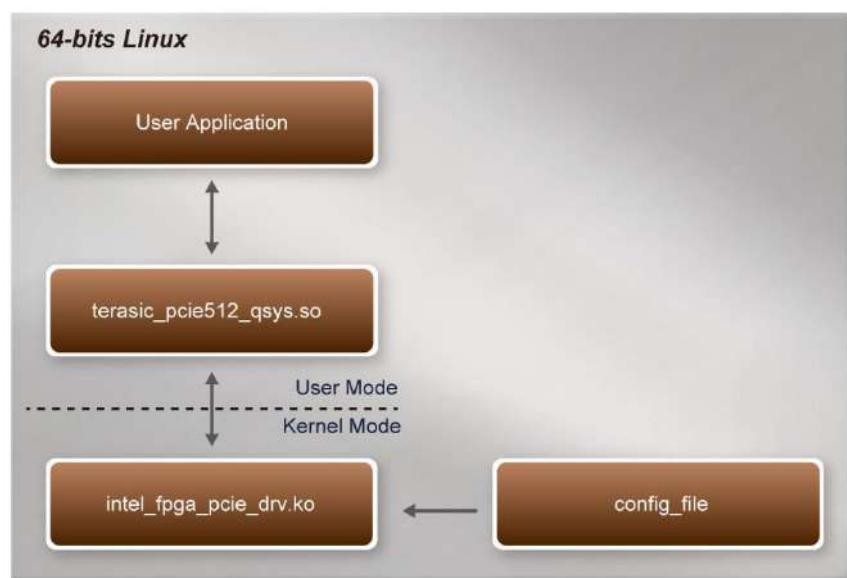

Figure 8-2 PCI Express Software Stack
**Figure 8-2** shows the software stack for the PCI Express application software on 64-bit Linux. The PCIe library module `terasic_pcie512_qsys.so` provides DMA and direct I/O access for user application program to communicate with FPGA. Users can develop their applications based on this .so library file. The `intel_fpga_pcie_drv.ko` kernel driver is provided by Intel.